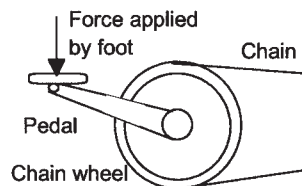

Figure 27.24 Activity 1
- 1 Analyse the elements involved in a rider getting a bicycle to move along a road. Consider how the force applied by the rider's feet is transformed into rotation of the chain wheel (consider the direction of the applied force in relation to the position of the pedal (Figure 27.24) and so how the applied torque varies with angle of rotation) and how this rotation is transformed into rotation of the rear bicycle wheel. What is the effect of changing the number of sprockets on the rear wheel drive, i.e. changing gear?